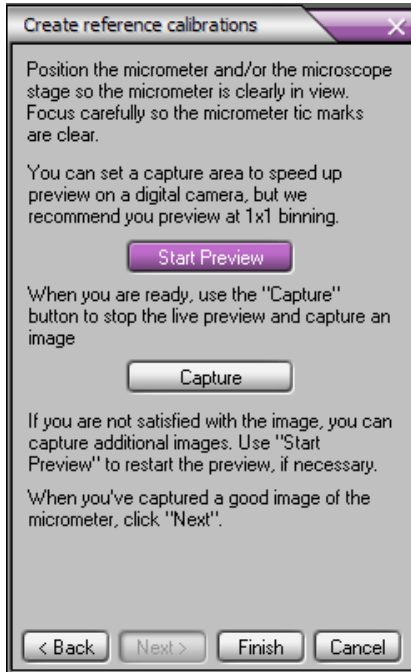

Figure 7. Previewing and Capturing a Reference Calibration
- Click ‘Next>’. You can now capture reference calibration images (Fig. 7).